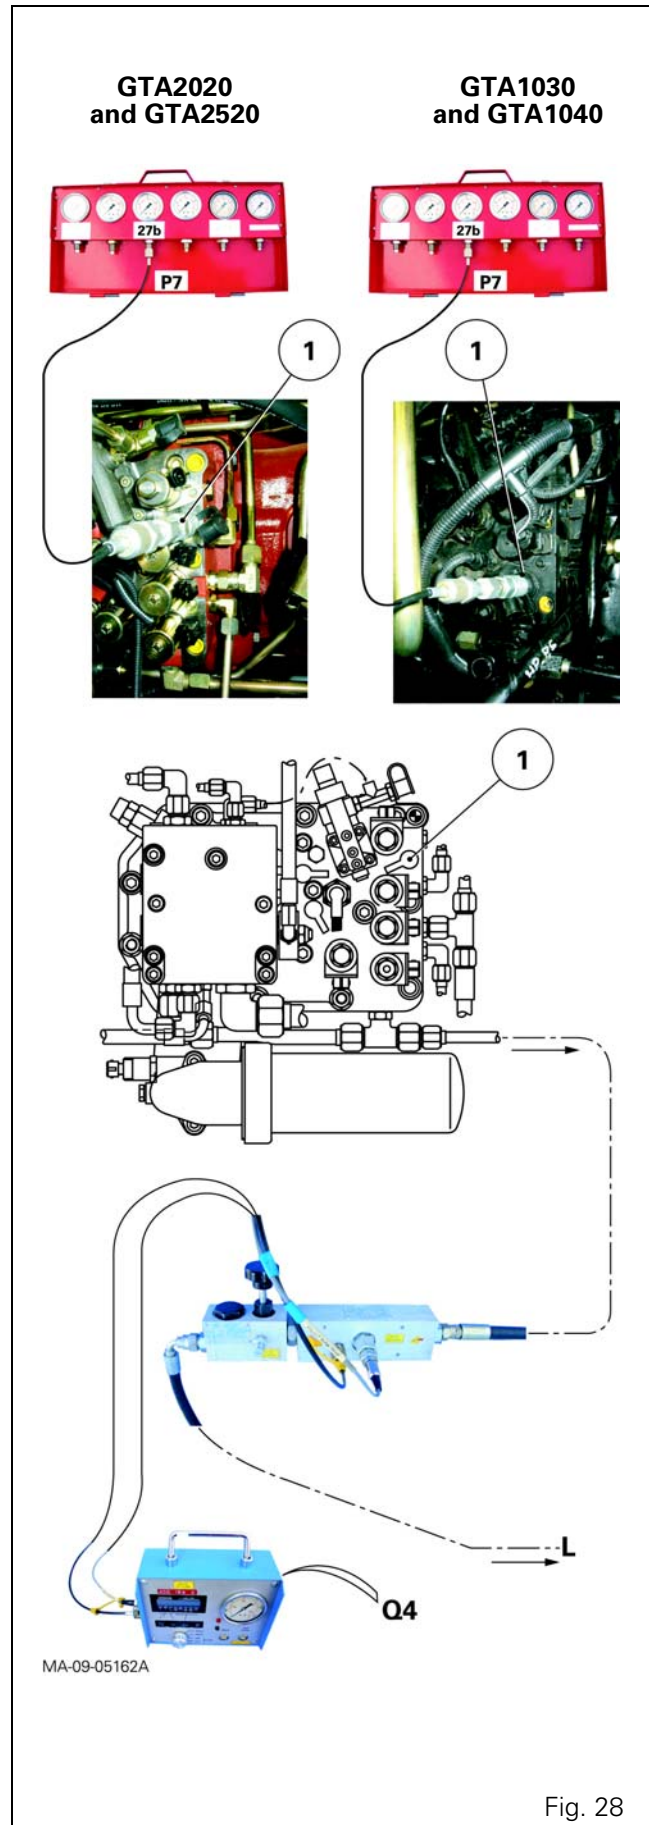

Fig. 28
- Connect the flowmeter between the right-hand hydraulic cover and the hydraulic line (L) of the 17 bar couplings (Fig. 20, Fig. 21 and Fig. 28).
- Connect a 30 bar pressure gauge to the connector (1) (Fig. 28) to check P7.